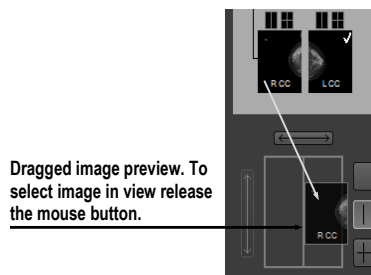

Figure 443 – Dragging an image from the study preview to the layout area
- Use the drag-and-drop technique to drag the image to the screen preview in the screen layout area in the image navigator (see Figure 443). The image is displayed in the appropriate view in the mammography workspace on the left or right monitor.